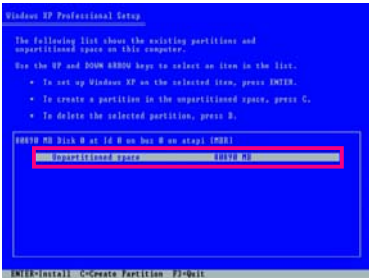
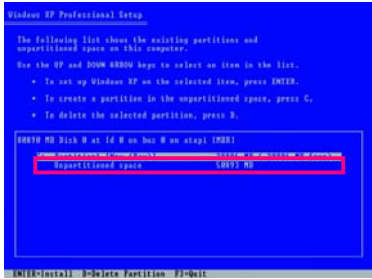

Figure 1
Figure 2
2. When partitioning your hard drive (Figure 1), make sure to leave unallocated space for Xpress Recovery2 (10 GB or more is recommended; actual size requirements vary, depending on the amount of data) (Figure 2).